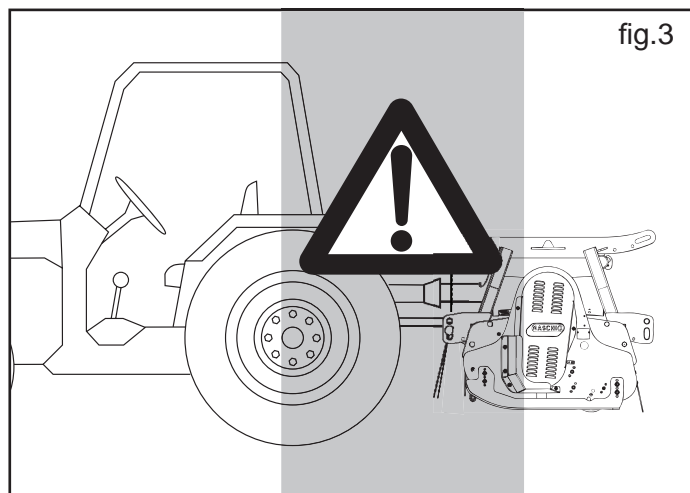

fig.3
- 5) It is absolutely forbidden to stand between the tractor and linkage for manoeuvring the lifting controls from the outside (fig.3)
- 6) It is absolutely forbidden to stand in the space between the tractor and the equipment (fig.3) with the engine running.